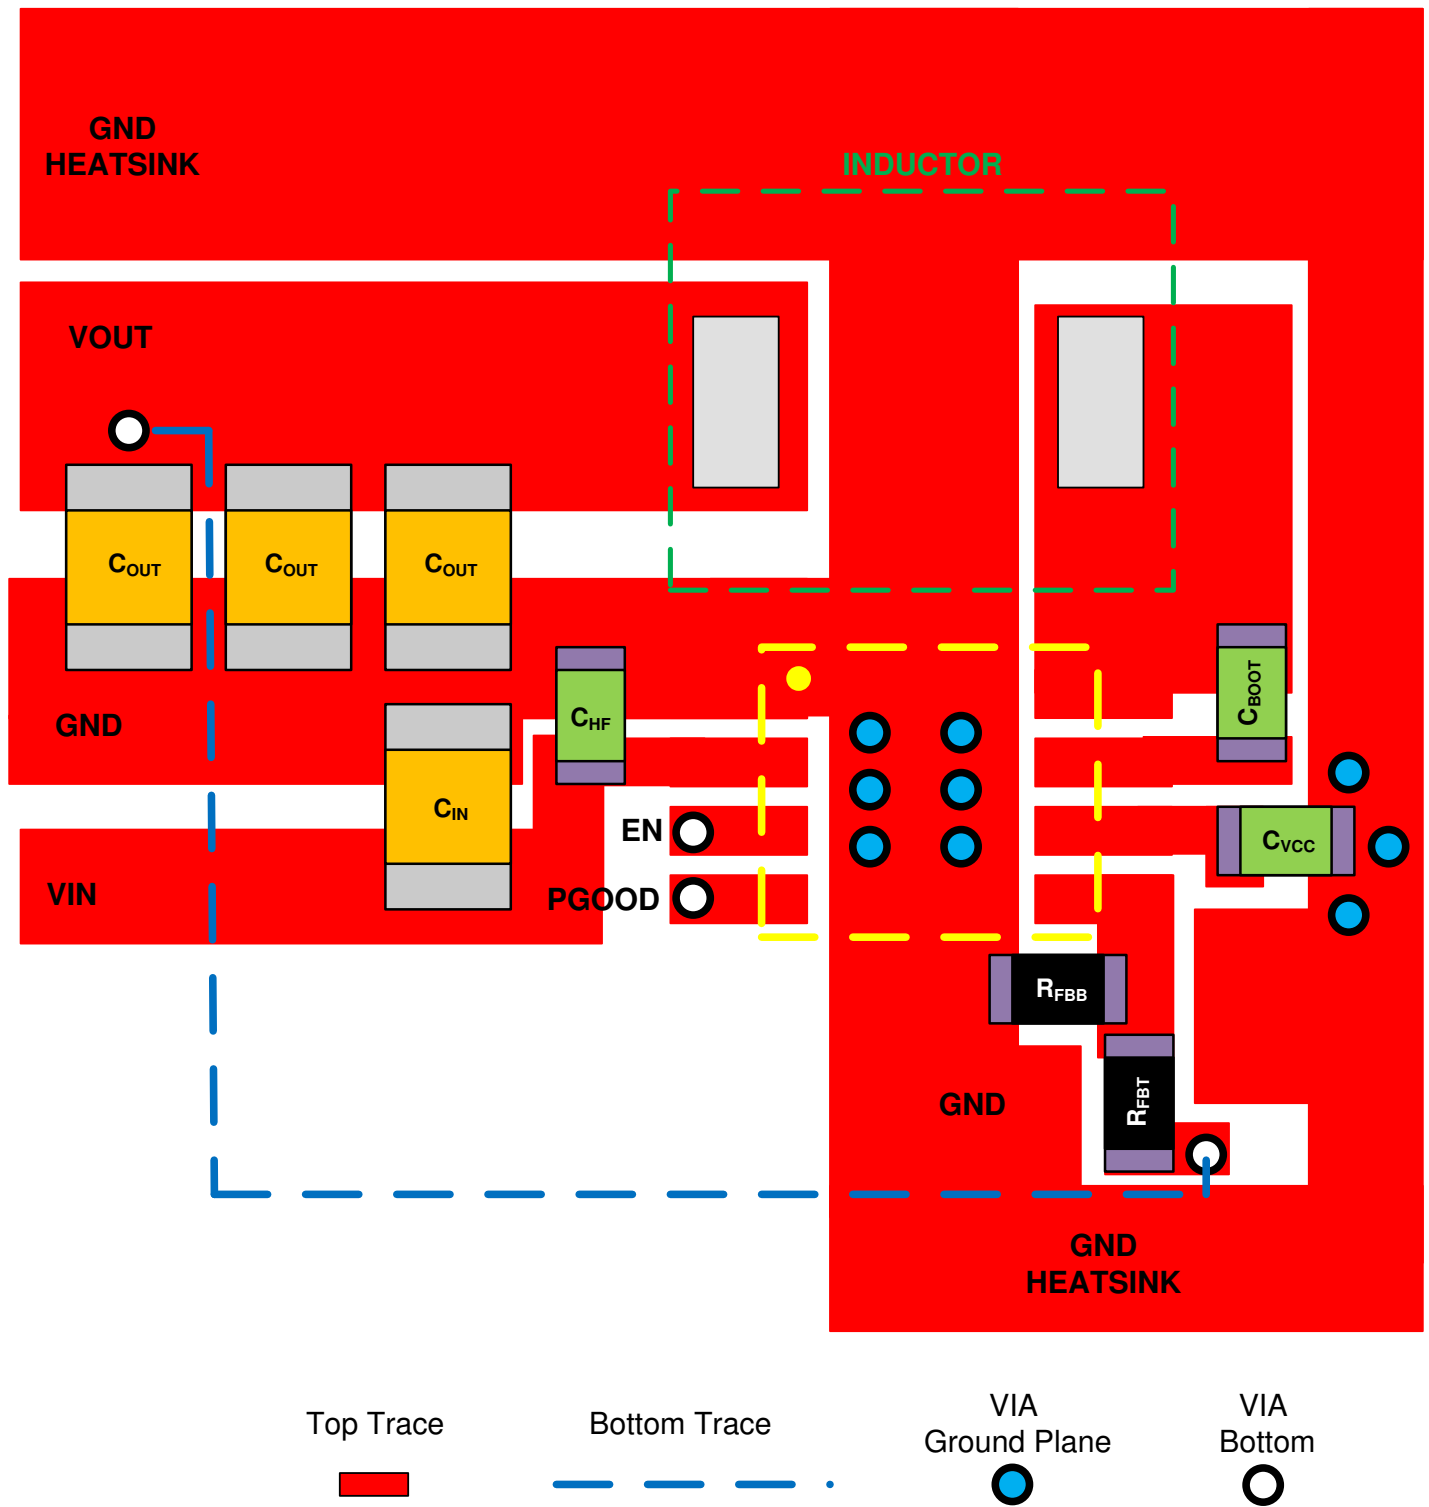
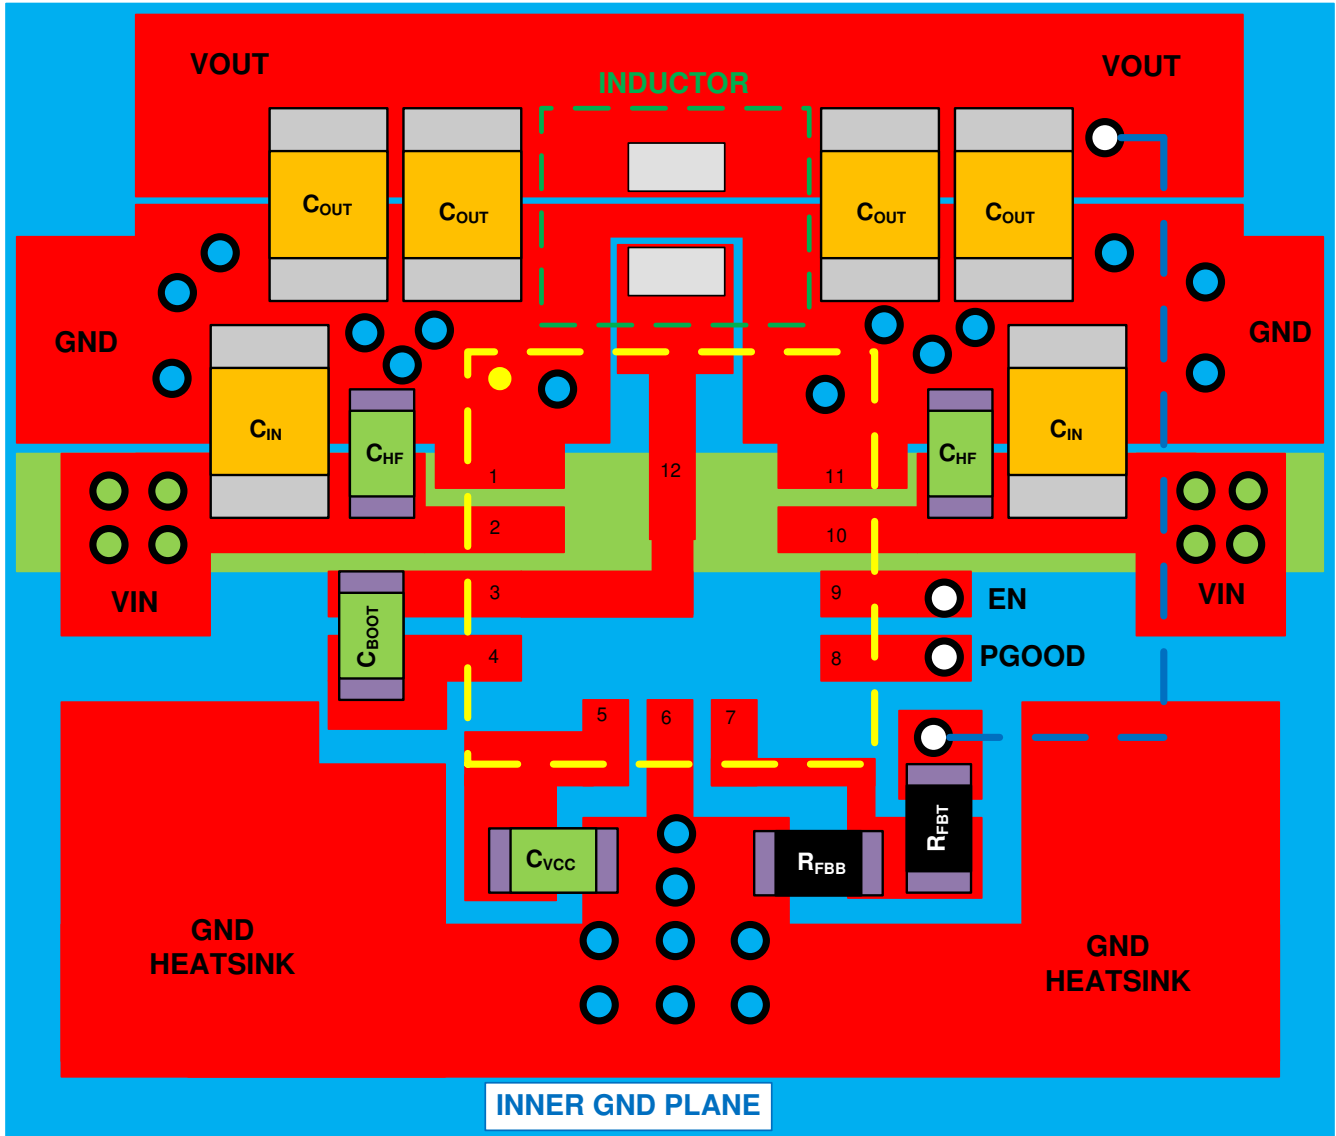

Figure 10-2. Example Layout for HSOIC (DDA) Package
Figure 10-3. Example Layout for VQFN Package
The PCB layout of any DC/DC converter is critical to the optimal performance of the design. Bad PCB layout can disrupt the operation of an otherwise good schematic design. Even if the converter regulates correctly, bad PCB layout can mean the difference between a robust design and one that cannot be mass produced. Furthermore, the EMI performance of the regulator is dependent on the PCB layout, to a great extent. In a buck converter, the most critical PCB feature is the loop formed by the input capacitor or input capacitors, and power ground, as shown in Figure 10-1. This loop carries large transient currents that can cause large transient voltages when reacting with the trace inductance. These unwanted transient voltages will disrupt the proper operation of the converter. Because of this, the traces in this loop must be wide and short, and the loop area as small as possible to reduce the parasitic inductance. Figure 10-2 and Figure 10-3 show recommended layouts for the critical components of the LMR33630.
1. **Place the input capacitor or capacitors as close as possible to the VIN and GND terminals.** VIN and GND pins are adjacent, simplifying the input capacitor placement. With the VQFN package there are two VIN/PGND pairs on either side of the package. This provides for a symmetrical layout and helps minimize switching noise and EMI generation. A wide VIN plane must be used on a lower layer to connect both of the VIN pairs together to the input supply; see Figure 10-3.